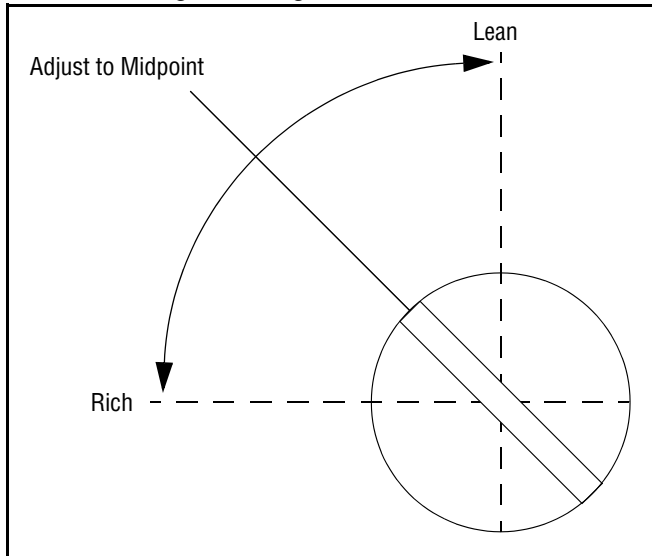

Figure 20
2. **Low Idle Fuel Screw Setting:** Place the throttle into the “idle” or “slow” position. Turn the low idle fuel mixture screw out (counterclockwise) from the preliminary setting until engine speed decreases (rich). Note the position of the screw. Now turn the mixture screw in (clockwise). The engine speed may increase, then it will decrease as the screw is turned in (lean). Note the position of the screw. Set the adjusting screw midway between the rich and lean settings. See Figure 20.